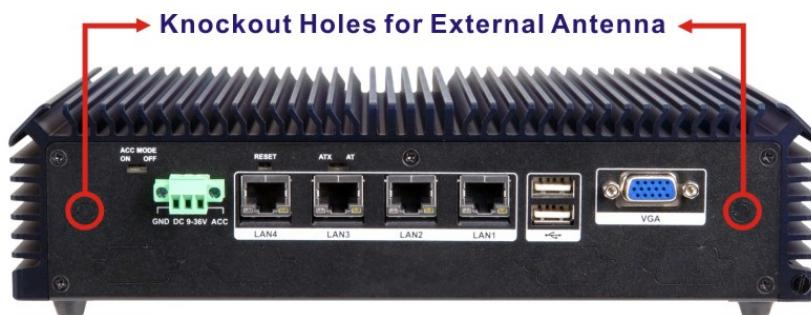

Figure 3-15: Knockout Holes for External Antenna
Step 2: Remove one of the two knockout holes for antenna installation. The knockout holes are located on the rear panel of the IVS-200-ULT2 as shown in Figure 3-15.